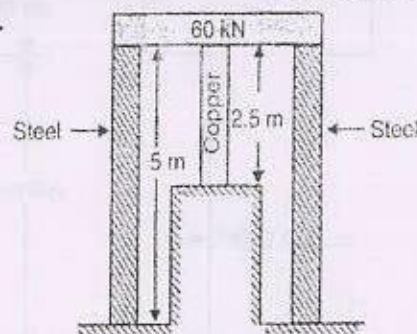

Fig. 1
- Q1) a)** Two steel rods and one copper rod each of 50mm diameter together support a load of 60 kN as shown in Fig.1. Take $E_s = 200$ Gpa and $E_c = 100$ GPa. [12]